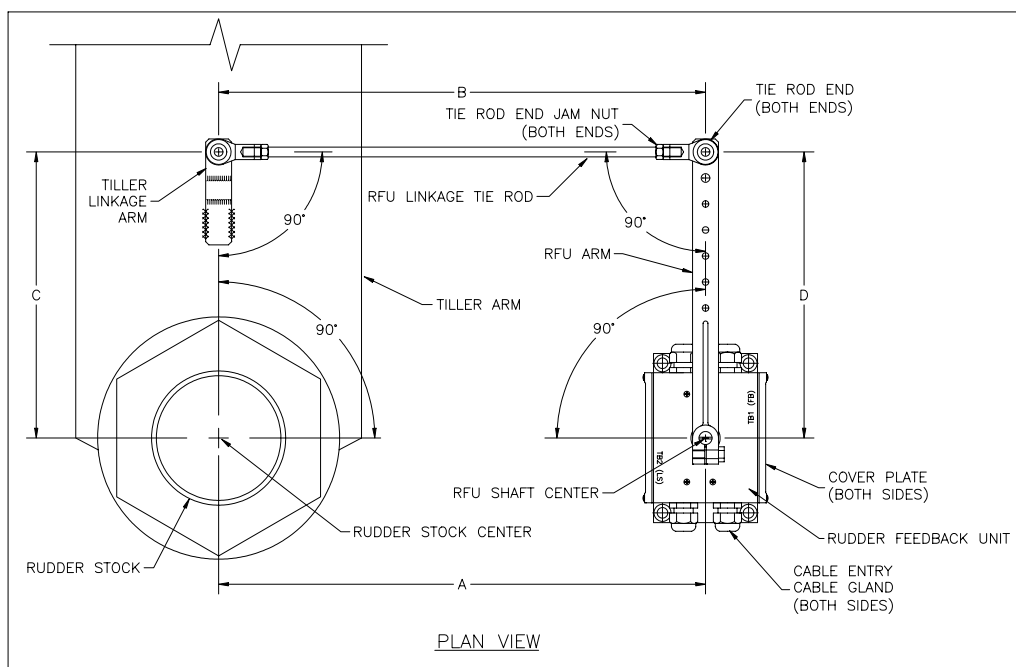

Figure 2 – RFU Mounting Arrangement
- a) The RFU body can be mounted at any orientation with respect to the arm. The suggested orientation for the RFU body points the cable glands as shown in Figure 2. This will help to ensure that clearance is maintained between the cables and the tiller as steering gear turns. Mount the box in a location that allows both covers to be removed and the internal components such as the terminal strips, limit switch cams and potentiometers to be accessed. Ensure that the 90 degree angles shown are maintained (i.e dimensions A=B and C=D).
- e) Turn the rod ends on the threaded tie rod until dimension A equals dimension B as shown in Figure 2. Fix dimension B by tightening lock nuts on tie rod.